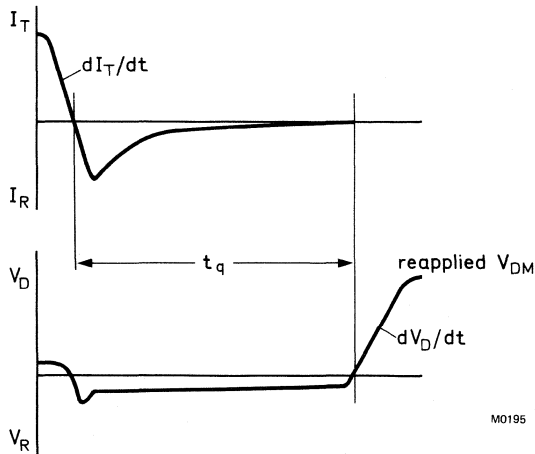

Fig.2 Circuit-commutated turn-off time definition.
**Switching characteristics (see Fig.2)**